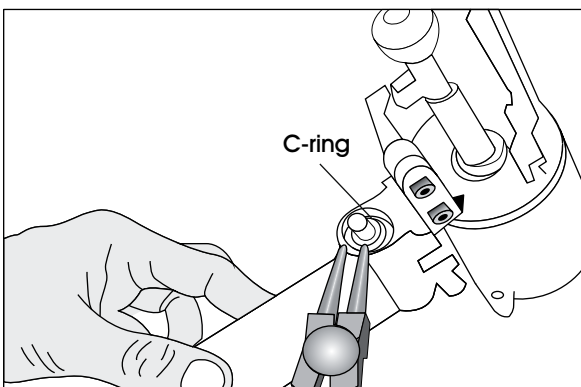

Figure 29
3. Remove C-ring with C-ring pliers. (See Figure 29)